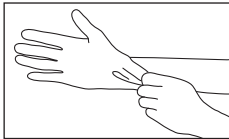

Fig. 9
- 1) Always wear protective gloves, a mask, and protective goggles for safety purposes and to minimize the risk of infection. (Fig. 9)